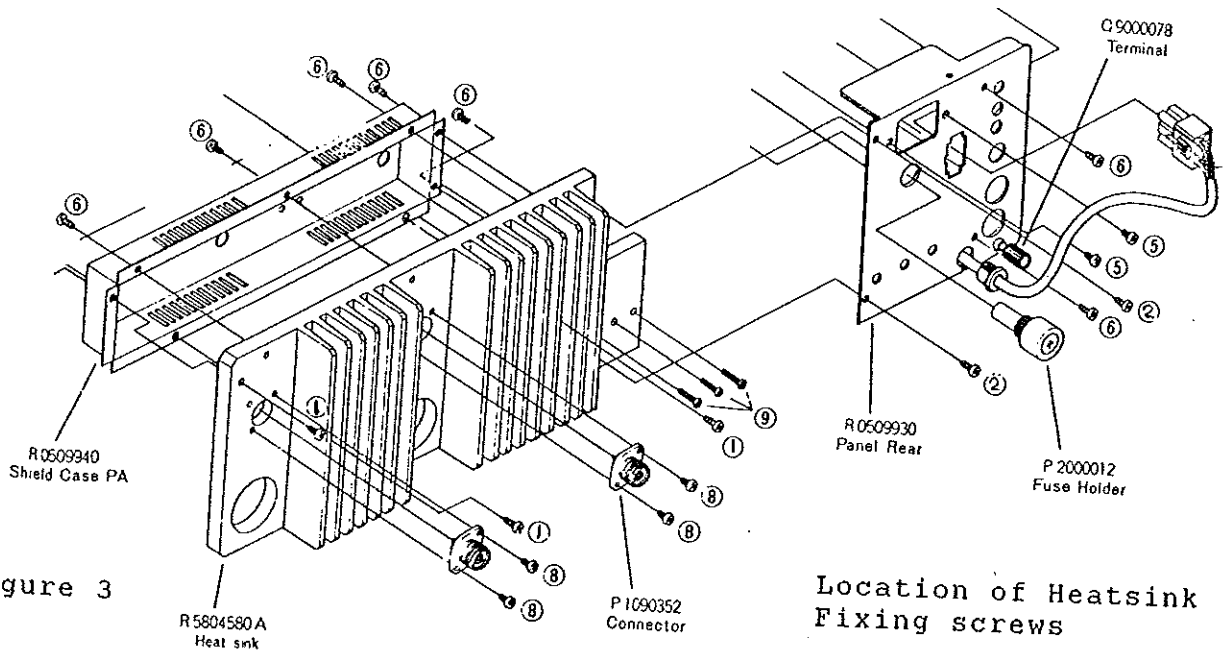

Figure 3
- 10) Remove the 3 screws '9' (see fig 3) that secure the power supply to the heatsink.
- 11) Remove the 3 long self tappers '1' (fig 3) that secure the heatsink to the rear of the chassis.
- 12) Remove the two short screws '2' (fig 3) that secure the connector panel to the heatsink. You should now be able to gently remove the heatsink from the transceiver by easing it out from behind the connector panel. Beware of the heatsink compound from the back of the power supply.